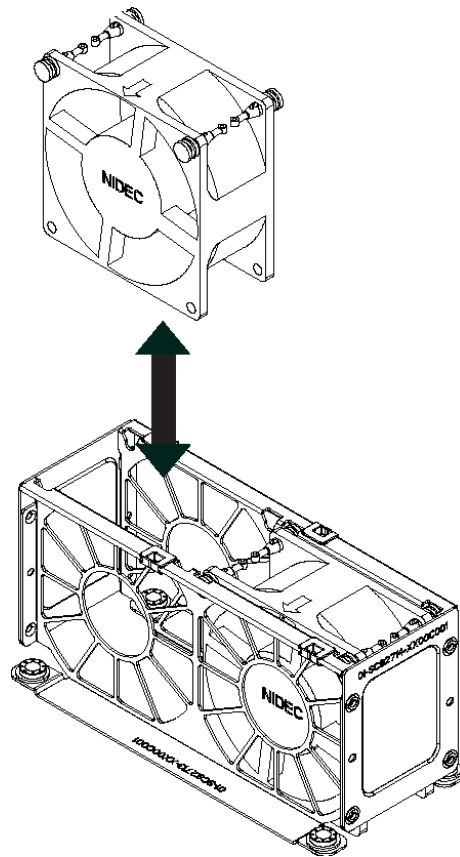

Figure 5-9 Removing Fan from Fan Housing
4. Push the fan up from the bottom and out of the top of the housing as shown in Figure 5-9.
See Figure 5-9.